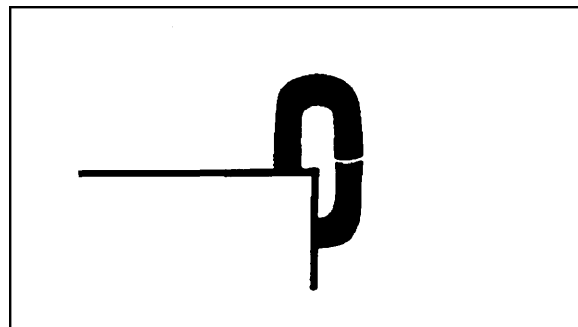

Figure 6
3. Loosen the link, reposition the link vertically at the edge of the vise with the level of the cut above the vise jaw (Figure 6).